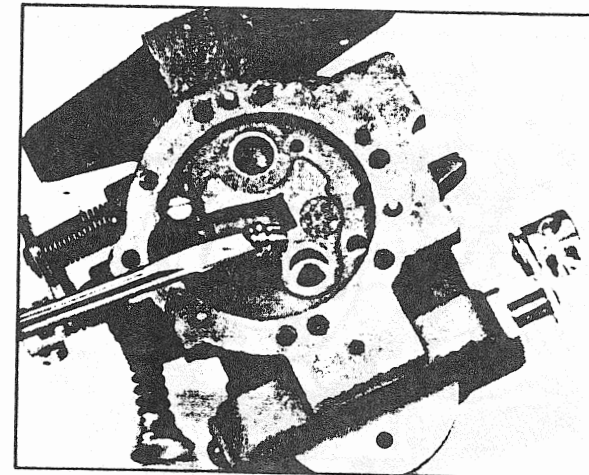

FIGURE 8
- Remove and inspect the main nozzle check ball assembly. Replace if defective. (Fig. 8).